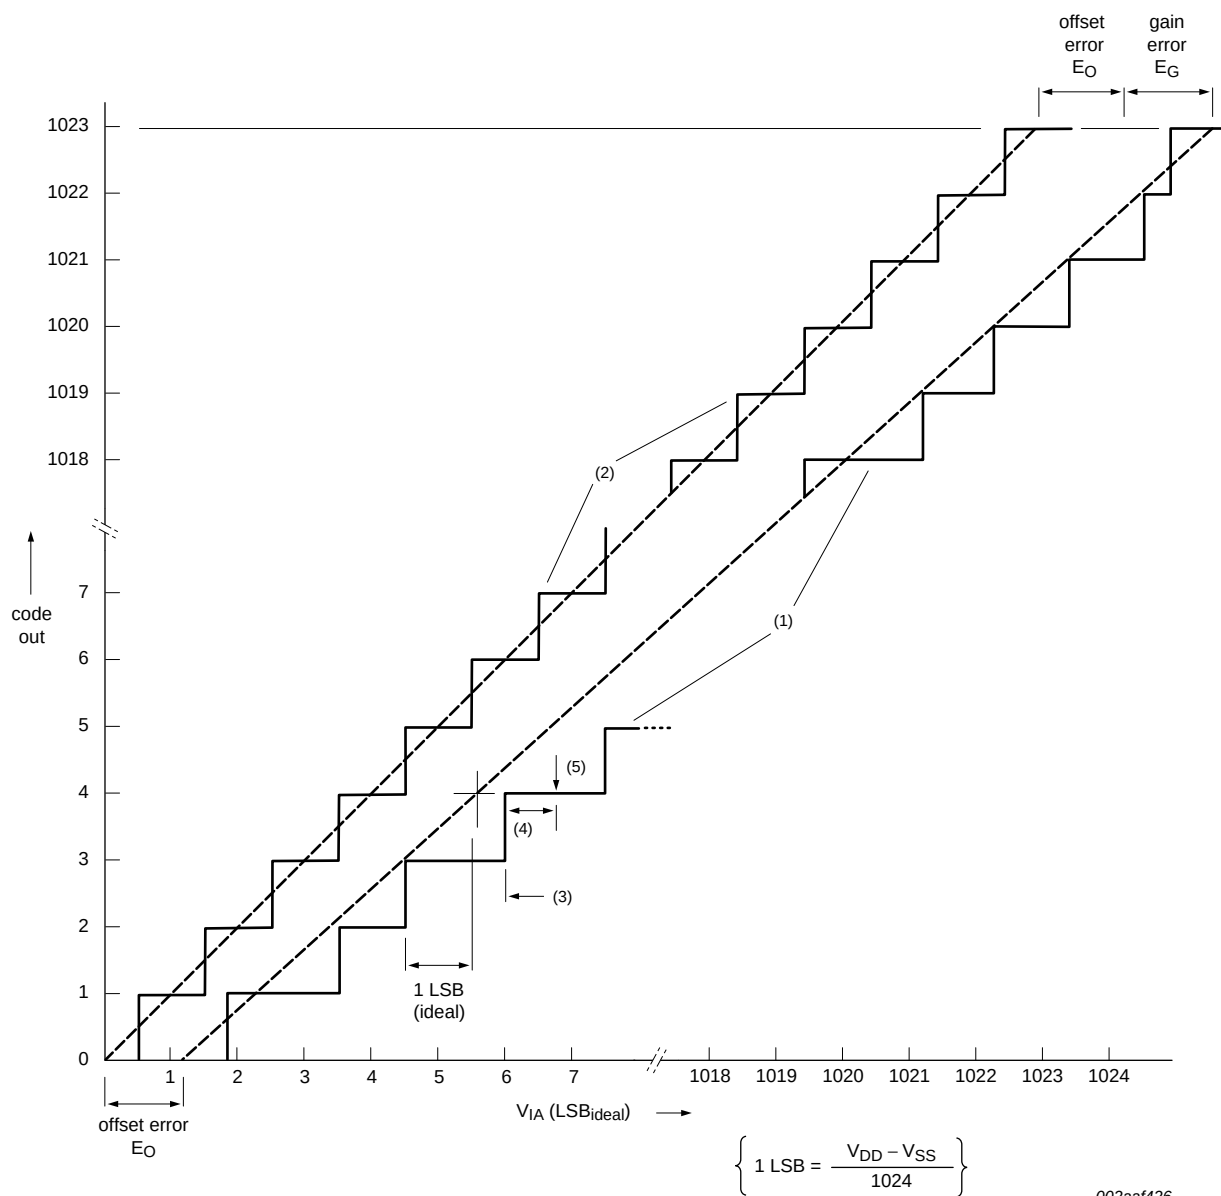

Fig 17. ADC characteristics
- [2] The differential linearity error (E_D) is the difference between the actual step width and the ideal step width. See Figure 17.
- [3] The integral non-linearity ($E_{L(adj)}$) is the peak difference between the center of the steps of the actual and the ideal transfer curve after appropriate adjustment of gain and offset errors. See Figure 17.
- [4] The offset error (E_O) is the absolute difference between the straight line which fits the actual curve and the straight line which fits the ideal curve. See Figure 17.
- [5] The gain error (E_G) is the relative difference in percent between the straight line fitting the actual transfer curve after removing offset error, and the straight line which fits the ideal transfer curve. See Figure 17.
- [6] The absolute error (E_T) is the maximum difference between the center of the steps of the actual transfer curve of the non-calibrated ADC and the ideal transfer curve. See Figure 17.